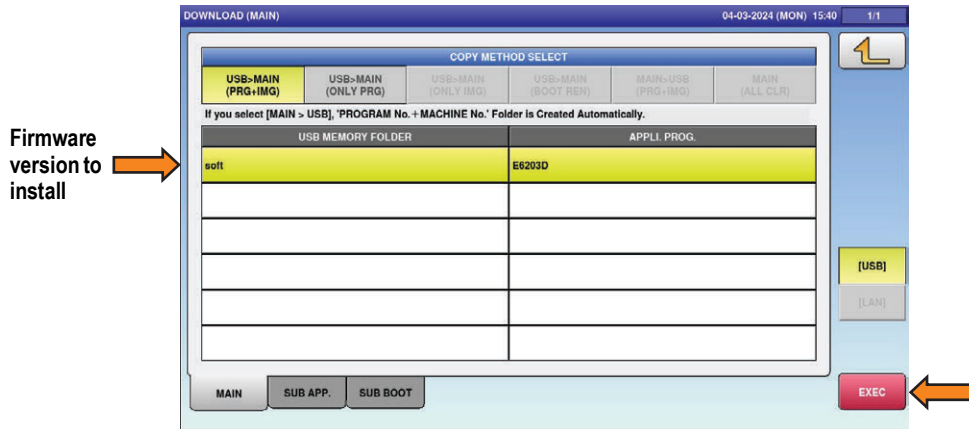

Figure 2-9. Select the Firmware File to Install
- Press the firmware version to be installed. The selected firmware will be highlighted in yellow. See Figure 2-9.